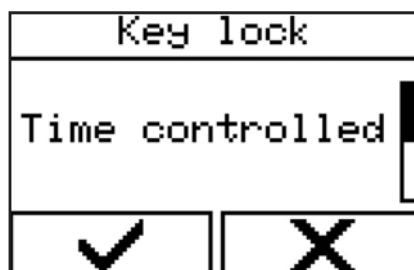

Figure 52 - Setting button lock
3. Select the menu item 'Time controlled' (Figure 52).